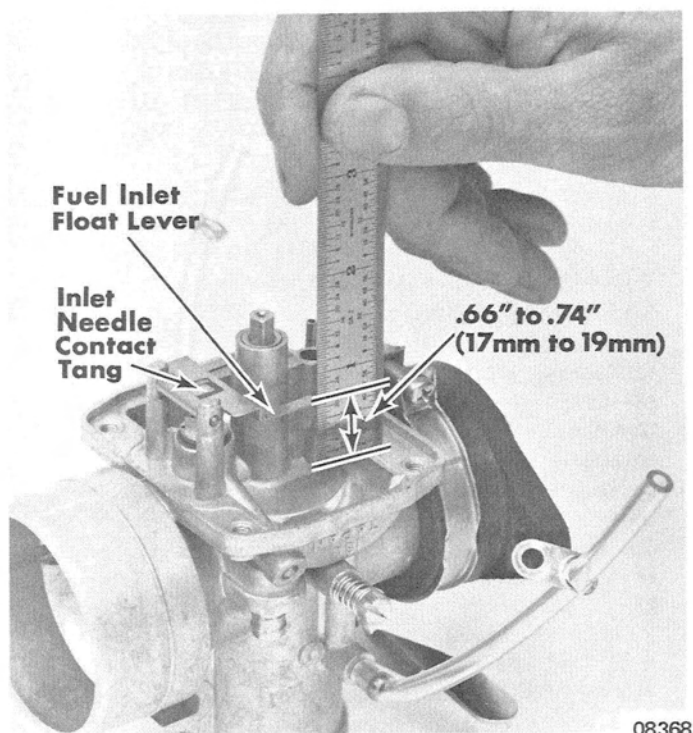

Figure 7. Float Lever Adjustment
8. Install float lever and secure in place with float lever pin. Check float lever adjustment, as shown in Figure 7, and adjust as necessary. Float lever, when properly adjusted, should be .66" to .74" (17mm to 19mm) from gasket surface of carburetor bowl (with gasket removed) to top edge of float lever with inlet needle closed. (Figure 7)